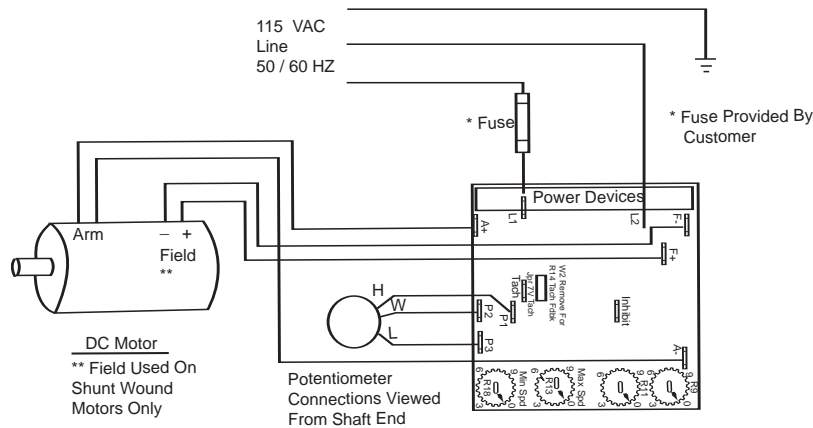

Figure 1 - DCX102C Connection
wiring the controller. Figures 1 and 2 on Page 5 are using the 1/4 inch female push-on connectors. (provided.)
6. Figures 1 and 2 show the connection for AC input power, DC motor and run speed potentiometer leads to the controller.
2. Wire the motor, controller, run speed potentiometer and tachometer feedback (if applicable) per Figure 1 or 2 on Page 5. Make sure connections are tight.